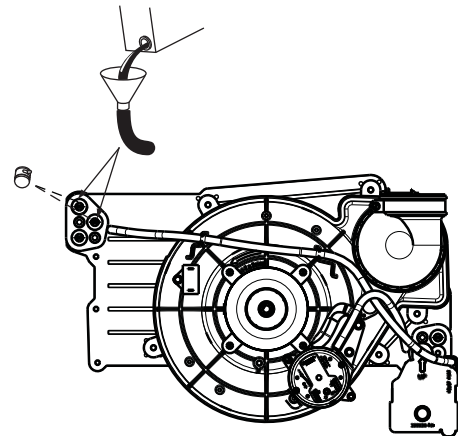

Fig. 58 - Priming Condensate Trap
4. Remove the top unused rubber plug from the port on the collector box opposite the condensate trap. See Fig. 58.
9. Remove the middle unused rubber plug from the port on the collector box opposite the condensate trap. See Fig. 58.